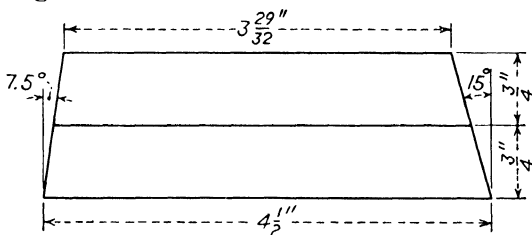

Fig. 136.—Laminated spar, airplane wing.
3. Make a full-scale drawing of the laminated wing spar, shown in Fig. 136.
4. Find the cross sectional area of the spar in Fig. 136. If it were 5 ft. long and made of spruce, how much would it weigh?